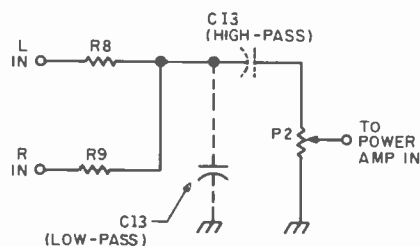

FIGURE 3: Crossover—with channel summing and volume control.
Figure 3 shows a simple volume control/channel-combining/low-pass circuit for a subwoofer operating below 95Hz. This circuit can also be used with a different power amp, though you'll have to adjust the capacitor value if the amp's input impedance is less than about 50k Ω .
You can also use pairs of these amplifier/crossover combinations to experiment with active crossovers in your stereo system. To change the crossover frequency (F), recalculate C13 in Fig. 3 from:
To make a first-order, *high-pass* crossover, place C13 in *series* with the signal as shown in Fig. 3 and use: